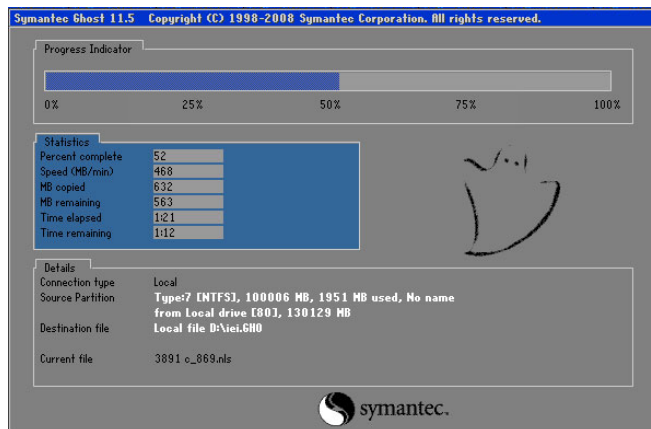

Figure B-19: Creating Image
Step 10: The Symantec Ghost starts to create the factory default image (**Figure B-19**).